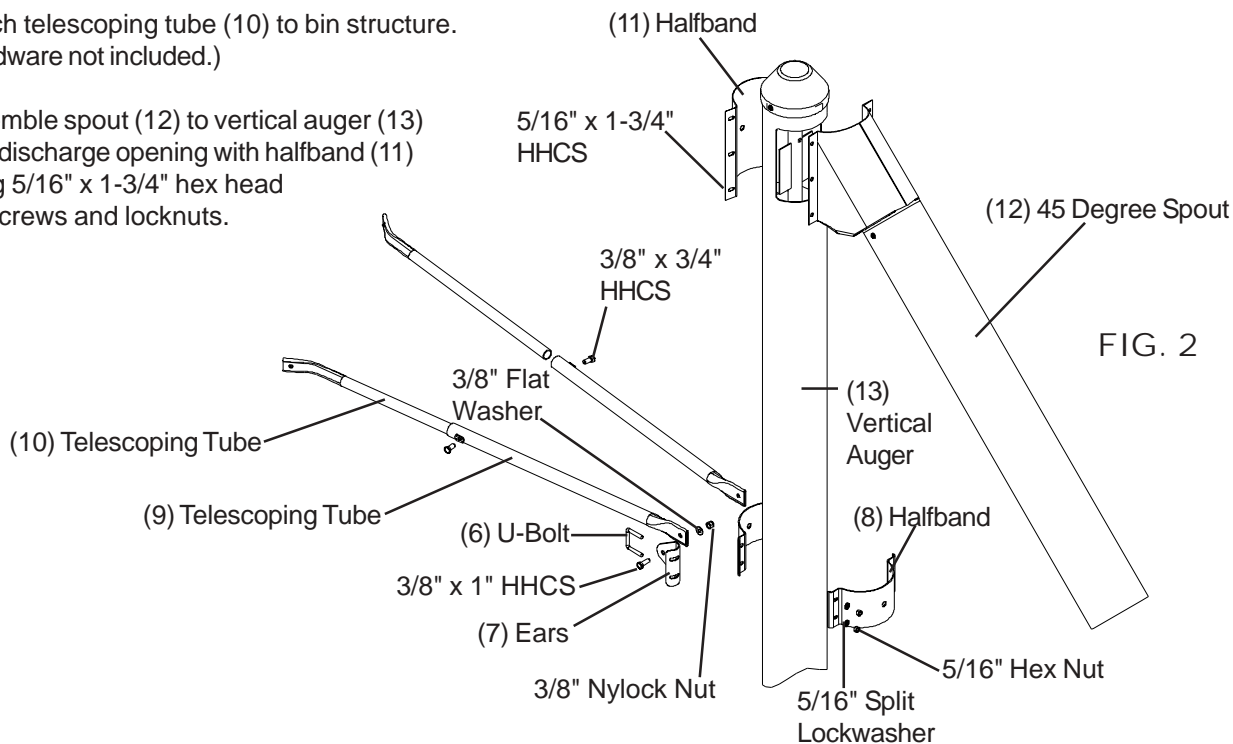

FIG. 2
- E. Using the same u-bolts (6) and nuts, attach ears (7) and halfband (8) to vertical tube at the same. For maximum stability, locate the bands on the upper half of the tube. (See Fig. 2)
- F. Bolt telescoping tubes (9) to the ears (7) using two 3/8" x 1" bolts & nylock nuts. (See Fig. 2)
- G. Secure telescoping tube (10) inside of tube (9) at appropriate length with 3/8" x 3/4" hex head set screws.
- H. Attach telescoping tube (10) to bin structure. (Hardware not included.)
- I. Assemble spout (12) to vertical auger (13) over discharge opening with halfband (11) using 5/16" x 1-3/4" hex head capscrews and locknuts.